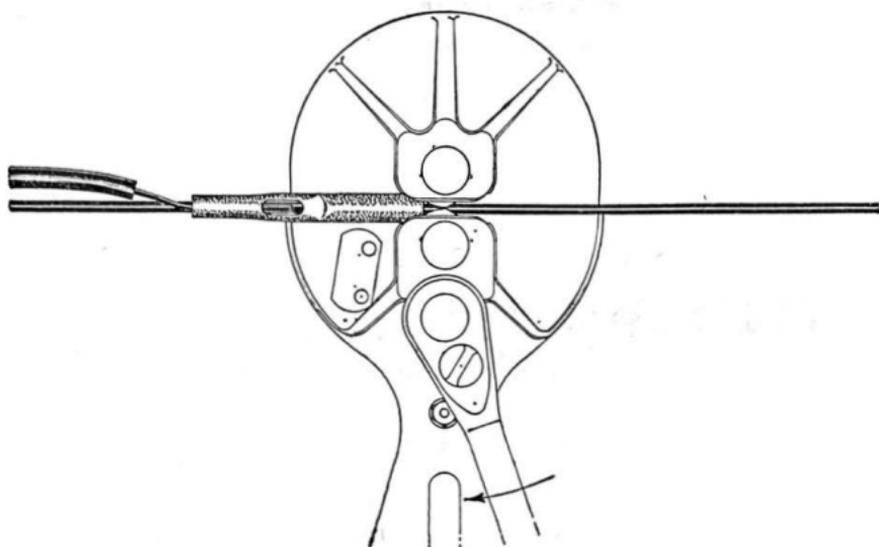

FIG. 9
- (7) Place the sleeve in the rolling tool as shown in Fig. 9.